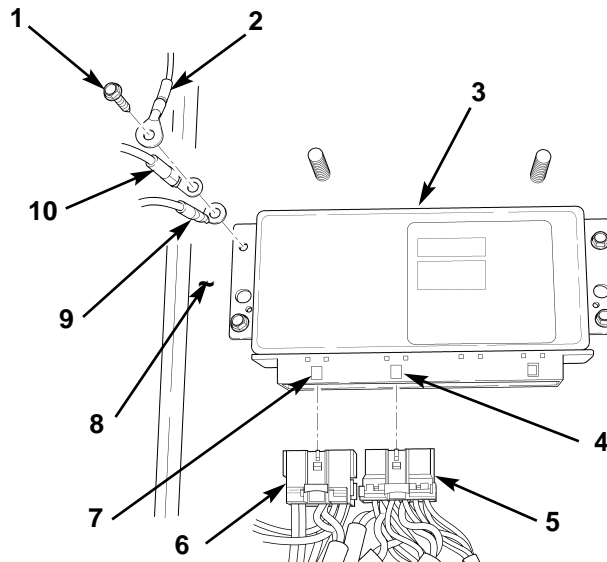

Figure 15. Connect ABS ECU Harness to ECU.
15. Connect three black ground wires (figure 15, items 2, 9, and 10) to ECU (figure 15, item 3) and firewall (figure 15, item 8) with screw (figure 15, item 1).
16. Connect ABS ECU harness connectors (figure 15, items 5 and 6) to ECU receptacles (figure 15, items 4 and 7).